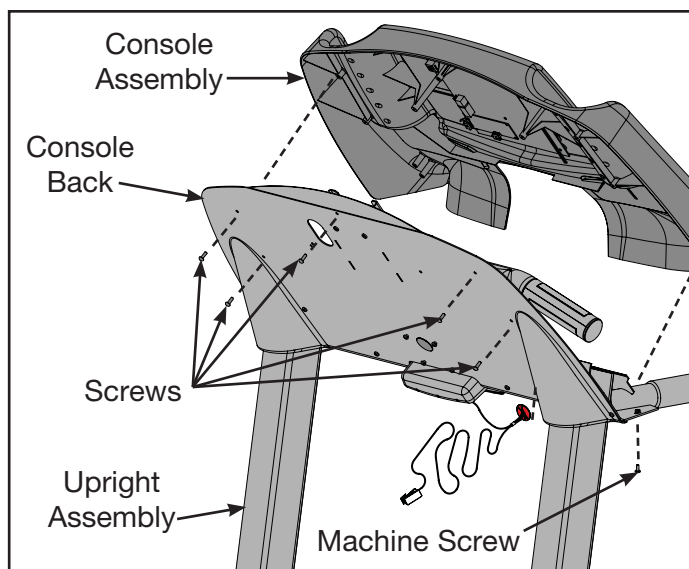

Figure 21
- B.** Using a Philips head screwdriver remove the two machine screws securing the console assembly to the upright assembly. See Figure 21.
- C.** Using a Philips head screwdriver remove the seven screws that hold the console assembly to the console back. See Figure 21.